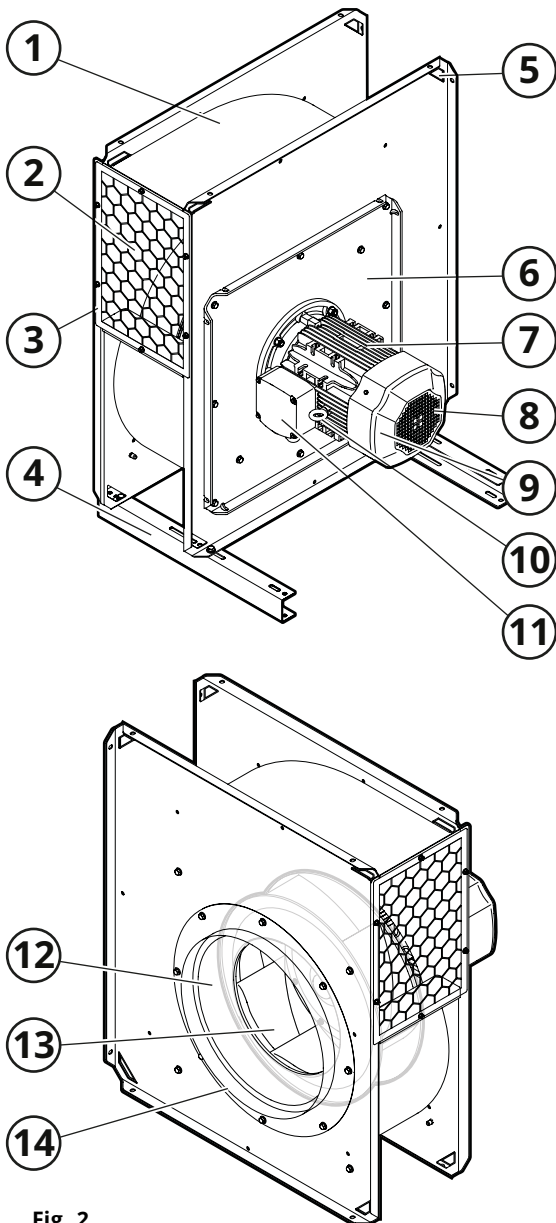

Fig. 2
See Fig. 2.
Air is extracted through the inlet (14, Fig. 2) to the center of the fan wheel (13). The air is then transported through the fan wheel and evacuated through the fan outlet (2).